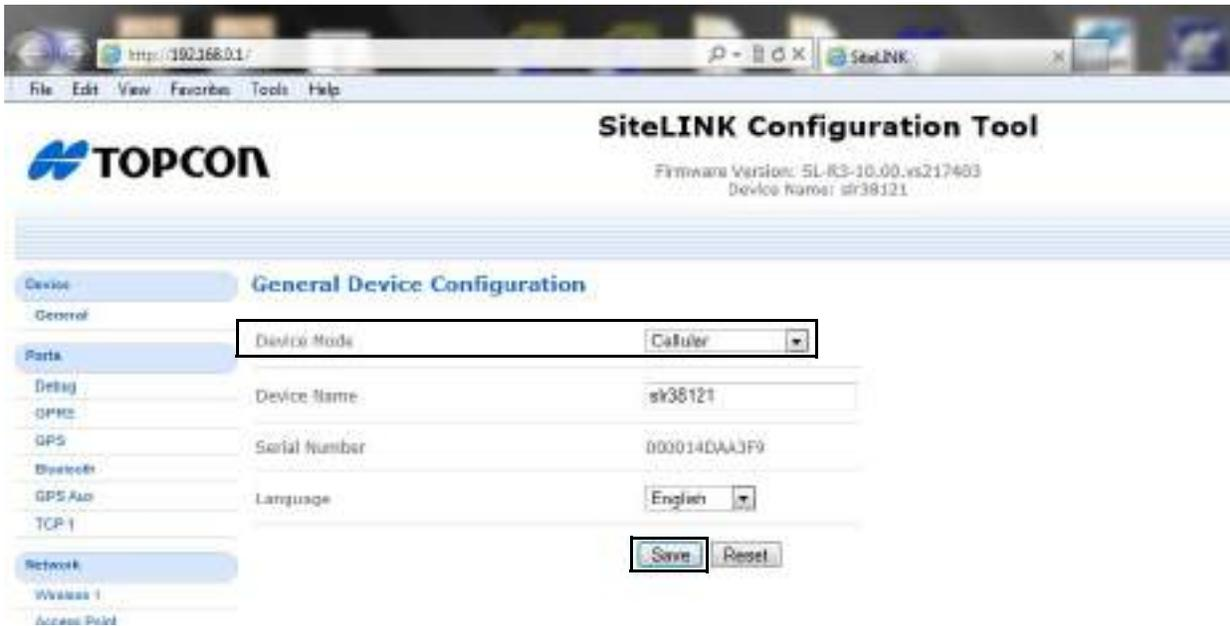

Figure 6. Device Mode - Cellular
2. Check that the *Device Mode* is set to **Cellular** (factory default). See Figure 6.